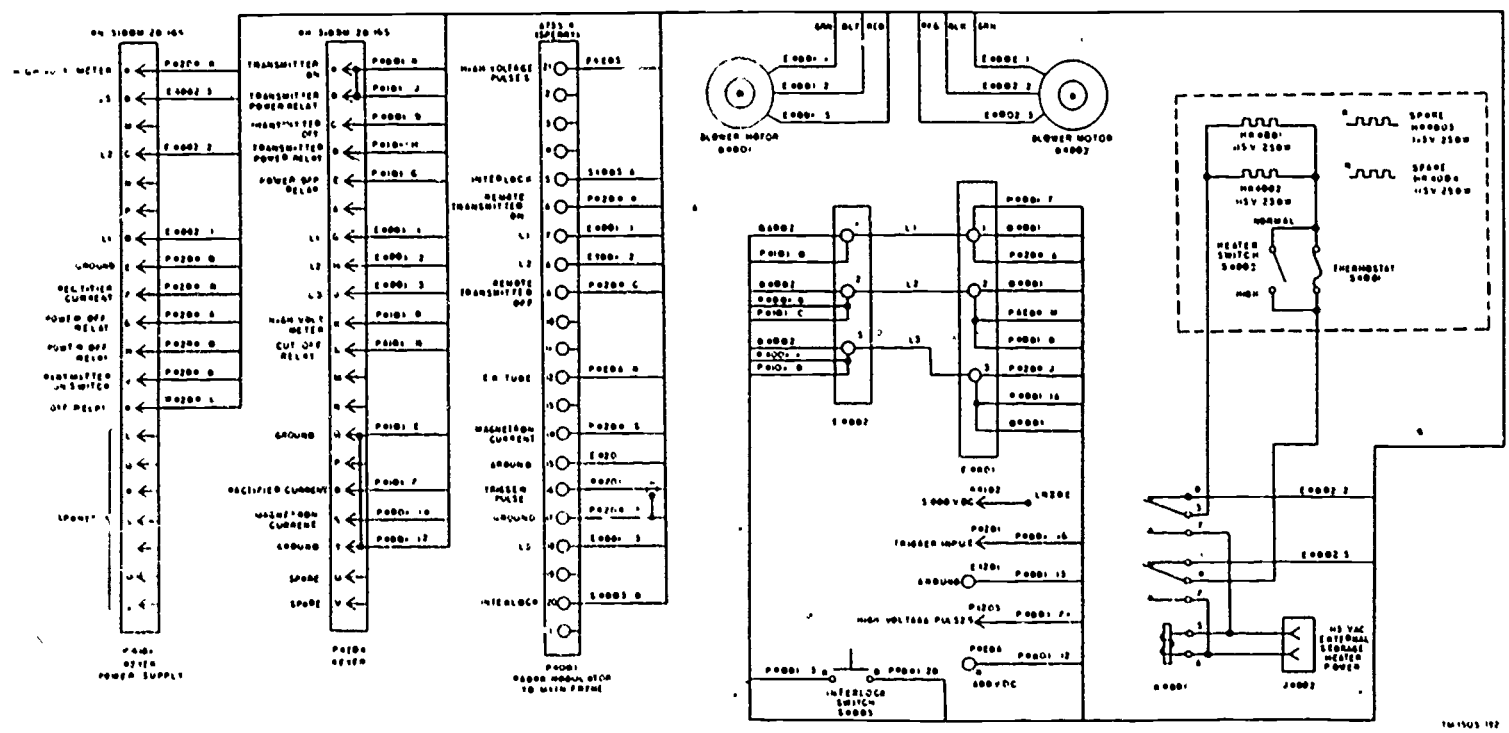

Figure 4-1. Typical wiring diagram.
- (1) Wiring methods. In equipments with many stages, terminal boards with numbered terminals are used as common connecting points between stages. If there are sufficient terminals on the terminal board, several stages can be connected to the same board without interference between stages. This method of wiring provides easily accessible test points and less confusion in the wiring. Since the output signal from one circuit may be used as the input signal to several other circuits, a terminal board is a convenient place to make these connections, rather than at the pins of a transistor or tube.
- (2) Identification of wires. Before a technician can use a wiring diagram, he must know how to read one. A wiring diagram such as the one shown in figure 4-1 uses either a color code or a numbering system, or a combination of both to identify the wires. You will find that in most wiring diagrams the system of parts identification is standardized, as shown in the following chart.
The terminals may be either numbered or lettered. To illustrate how a wiring diagram is read, we will start with the plug labeled P4101 (fig. 4-1). From terminal E, a wire labeled P4204-Q leads to terminal Q on P4204. Notice that at terminal Q the same wire is labeled P4101-E. This enables you to quickly identify the connections from either terminal. Notice also that on P4204, terminal Q is connected to terminal T. The wire at terminal T is labeled P4001-17. This wire leads to terminal 17 of P4001. Therefore, terminal E of P4101, terminals Q and T of P4204, and terminal 17 of P4001 are all connected together. Since each plug on this chassis connects to a jack on another chassis, it permits a physical ground on either chassis to serve as electrical ground for both chassis.
Let us use figure 4-1 and assume that the technician wants to check the circuit labeled L3. One end of the circuit is at terminal B of P4101. The technician places one probe of the ohmmeter on terminal B and the other probe on pin 3 of terminal strip E4002. He then reads the ohmmeter. If the circuit is open (incomplete), the meter will indicate an extremely high resistance (maximum deflection). If the circuit is complete, the meter will indicate the resistance of the circuit under test. If there are no components in the circuit, the reading will be at or near zero ohm (the resistance of the wire). If there are any components in the circuit, the meter indication will include the resistance of the components in the circuit. There are four wires connected at terminal 3 of E4002: one from B of P4101, one from terminal 1 of relay K4001, one from terminal 3 of blower motor B4002 (the red wire is identified as E4002-3), and the fourth, labeled L3, from terminal 3 of E4001. Since we have already checked the continuity between E4002-3 and P4101-B, we now move the probe from P4101-B to B4002 (the red wire), then to K4001-1 (and when K4001 is closed, to heater switch S4002), checking the continuity at each point. To check the switch, place probes across S4002 and set the switch to ON. Assuming that these circuits are good, we check between E4002-3 and E4001-3. The final checks are made from E4001-3 to P4204-J, to P4001-18, and to B4001, in turn. This entire circuit has been checked for continuity. The same procedures are used to make continuity checks of other circuits. The wiring diagram may be used with other types of diagrams to help the technician select the proper points for making other tests and measurements.
3. In the wiring diagram in figure 4-1, the identification numbers for the relay and the interlock switch, respectively, are